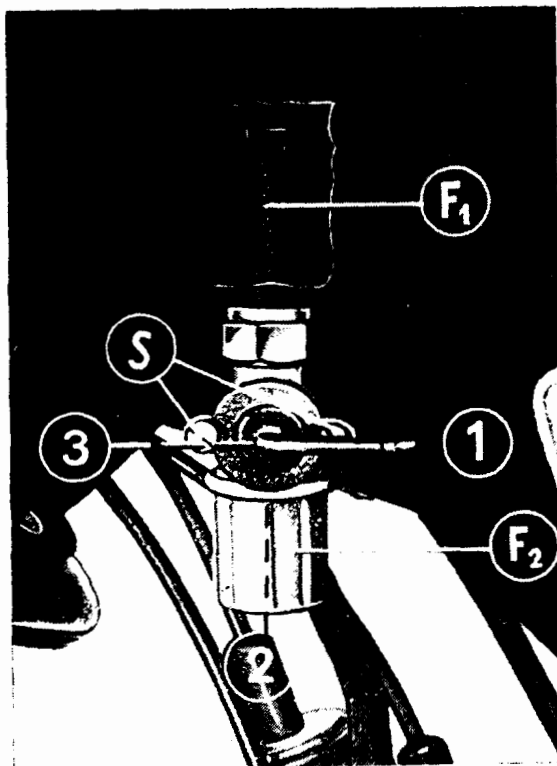

Fig. 5. Fuel shut-off cock
3. Open the fuel shut-off cock (Fig. 5).